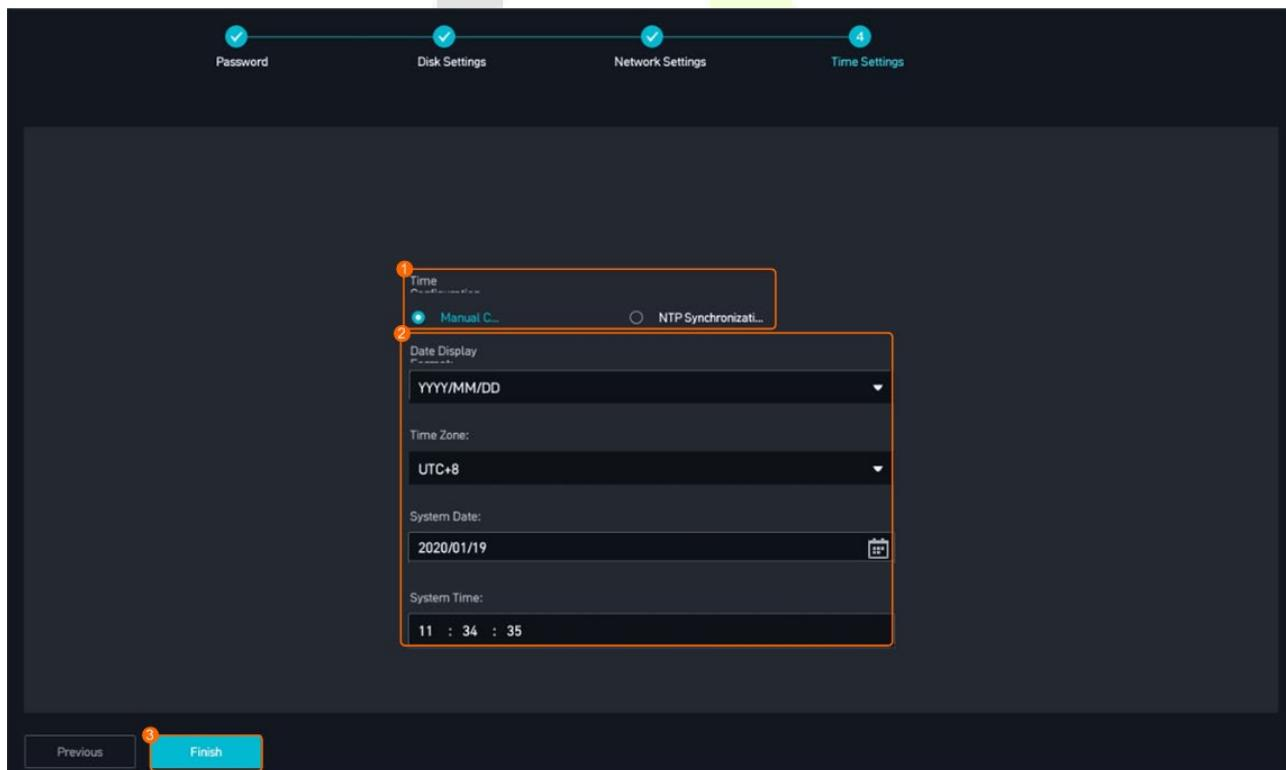

Figure 3-10 Manual time configuration
- If no NTP server is configured onsite, manually configure the time, as shown in Figure 3-10.